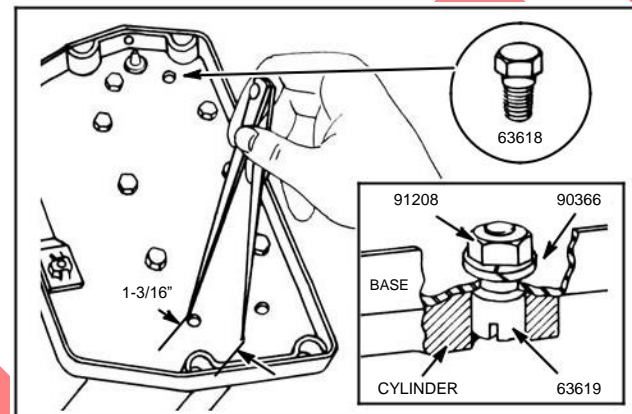

Fig. 169 - ALIGNING MODEL "WMG" GENERATOR
Loosen cap screws 1 to 10 and remove screws 1, 6, and 10. Replace No. 6 cap screw with new shoulder screw, Part #63918 (NLA), then install new dowel pin, Part #63919 (NLA), at No. 11 after doing the following: Spread a divider to 1-3/16", Fig. 169. With divider point at the farther side first of No. 1 hole, scratch two (2) arcs to intersect as shown in Fig. 169, at No. 11. Prick punch at intersection of arcs and drill a 11/32" hole through the base for No. 11 hole.